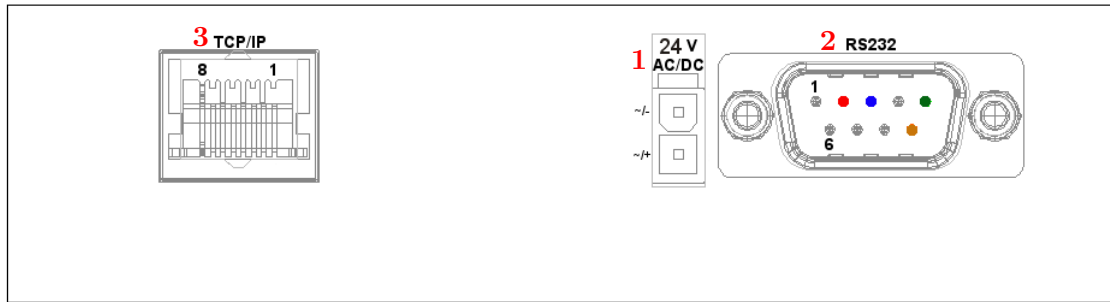

Figure 6: Edge connector of the PZE-MasterIV Basic
The PZE-MasterIV Basic is energized (24 V 300 mA power supply unit) by the Molex connector (1) in figure 6.
The device can be integrated into a network of companies via TCP/IP via the RJ45 plug (3) in figure 6.
A single device can be connected to the PC directly via the RS232-interface (position 2 in figure 6). The cable must not be longer than 15 m. Use a RS232 cable with a 1:1 configuration, corresponding to Datafox item no. 20010, as connecting cable.